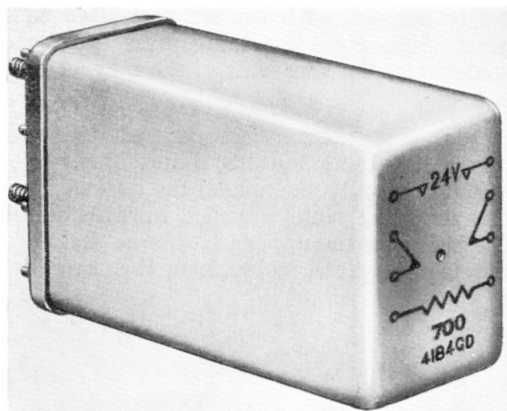
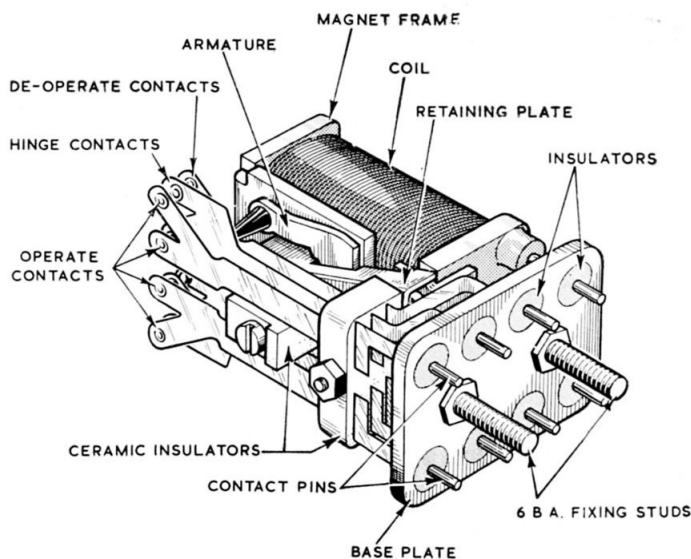

Fig. 1. Magnetic relay switch, Type 4184GD
Fig. 2. Internal construction of relay
2. A general view of the relay is given in fig. 1, and a view of the internal construction in fig. 2. It incorporates a base plate, a magnet frame with coil and armature, and a contact set. The base plate, which carries two fixing studs, is drilled to accommodate the eight glass insulators for the contact pins. Mounted on its upper side is a bracket, to which are attached the magnet frame, coil, armature and spring set.